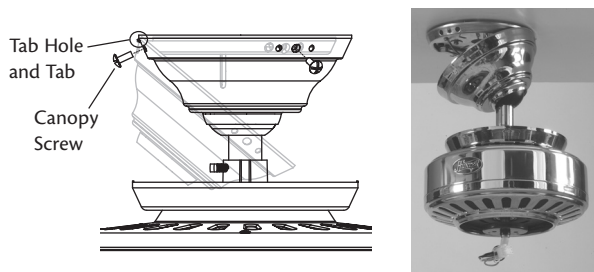

Figure 17 - Installing the canopy
2. Hook the tab hole over the tab on the ceiling plate as shown in Figure 17.
3. Raise the canopy, be sure the holes in the canopy and the ceiling plate are aligned, and loosely assemble the canopy screws one at a time. When all three screws are assembled, securely tighten all three canopy screws. Refer to Figure 17.